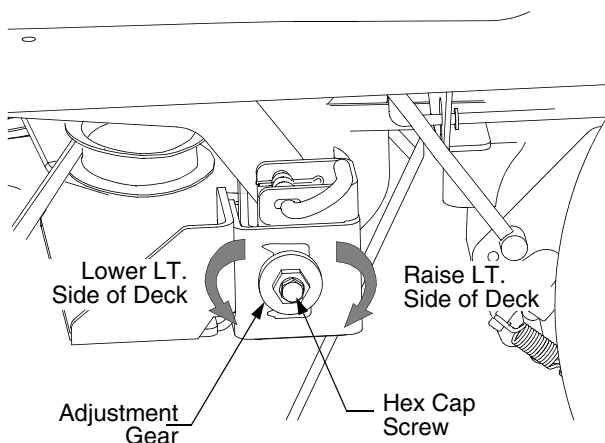

Figure 29
- Loosen, but do not remove, the hex cap screw on the left deck hanger bracket. Refer to Figure 29.
- Level the deck by using a wrench to turn the adjustment gear (found immediately behind the hex cap screw just loosened) clockwise to raise the left side of the deck, or counterclockwise to lower the left side of the deck. See Figure 29.